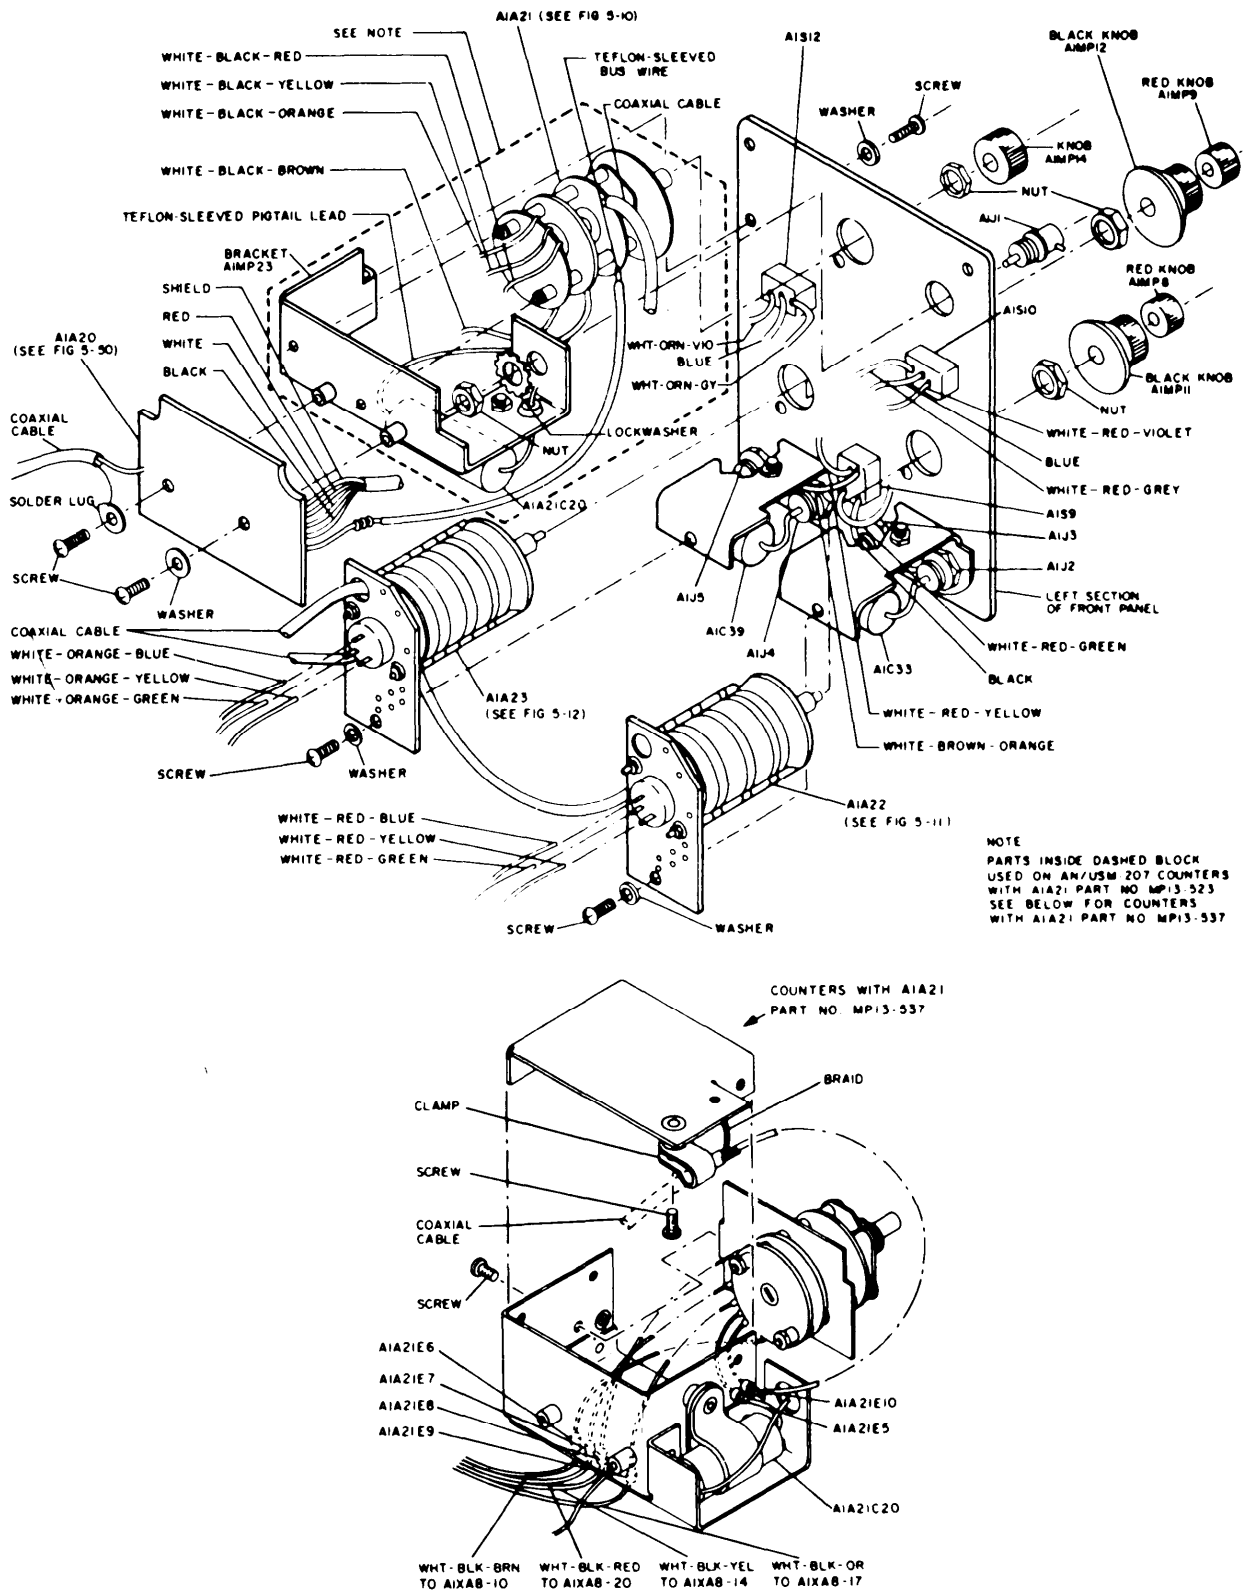
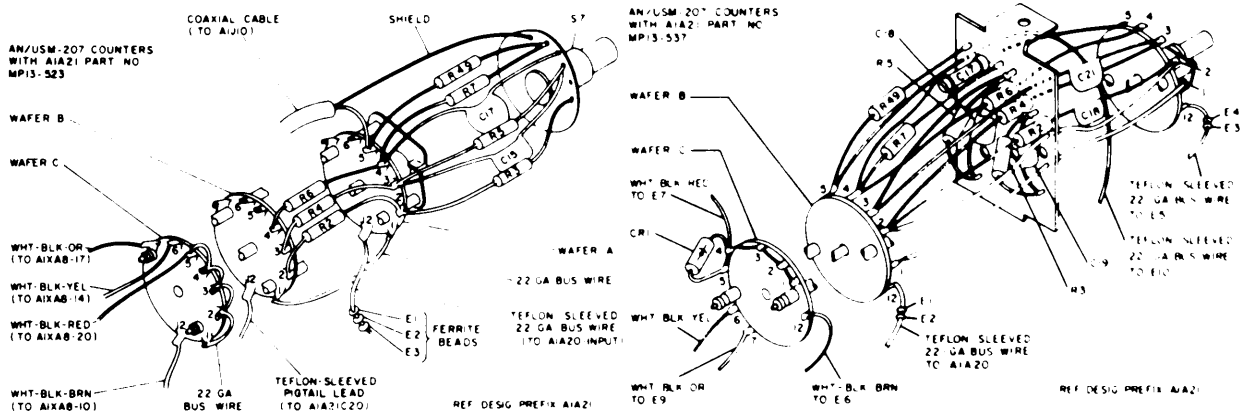
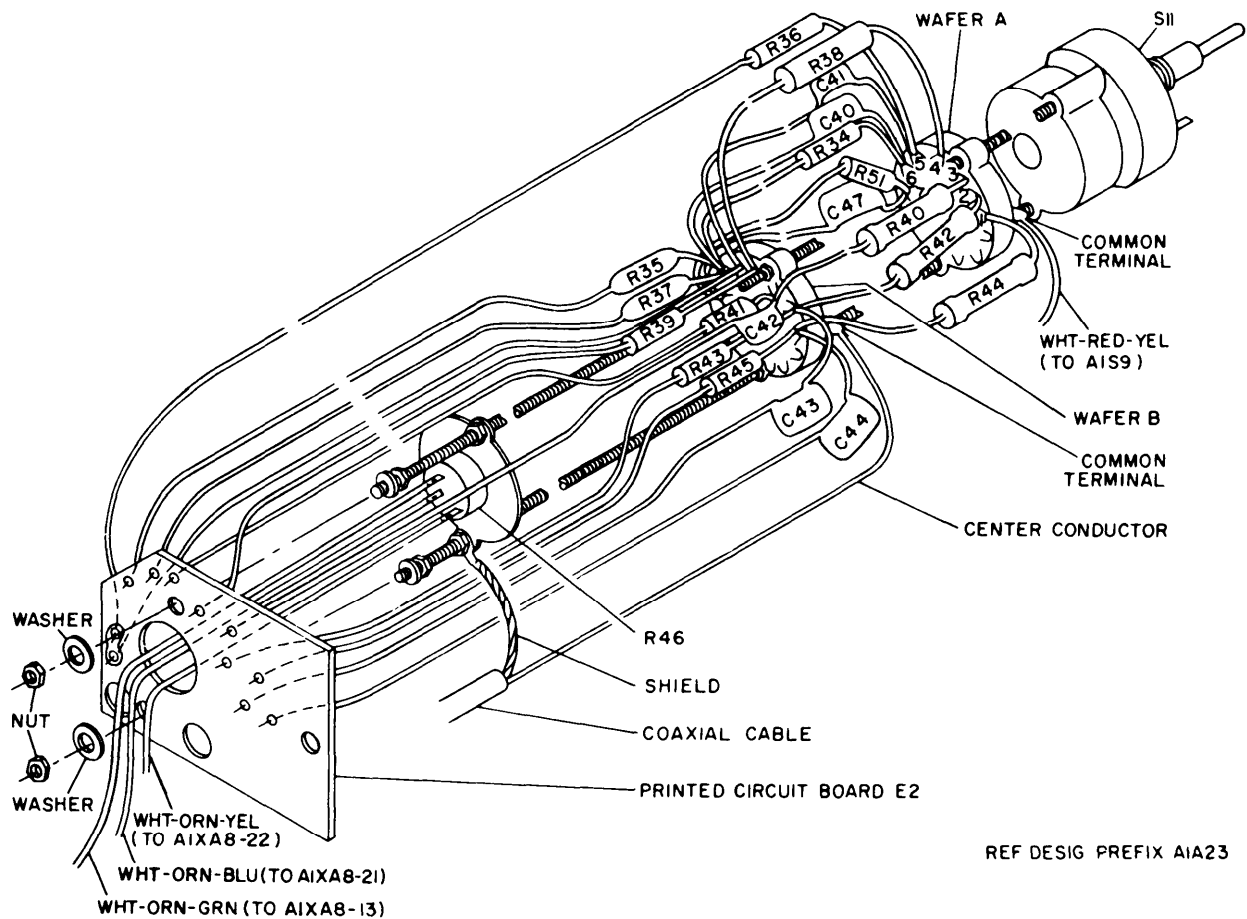

Figure 5-9. Left Section of Front Panel, Exploded View
Figure 5-10. Channel A Variable Attenuator A1A21, Location of Parts
Figure 5-12. Channel C Variable Attenuator A1A23, Location of Parts
(1) Perform the procedure of paragraph 5-5g to gain access to A1A20.
(2) Remove and save the two screws, washer and solder lug that mount A1A20 to its bracket MP23 (figure 5-9).
(3) Disconnect the coaxial lead and braid from the component side of A1A20. Code-mark coaxial cable to insure proper reassembly.
(4) Disconnect the red, white, and black leads and shield of the cable and teflon-sleeved bus wire from the circuit side of A1A20. Code-mark leads and save the three ferrite beads to insure proper reassembly.
(5) Orient replacement A1A20 such that the component side faces the bracket.
(10) Perform the procedure of paragraph 5-5g to gain access to A1A20.
(11) Remove and save the two screws, washer and solder lug that mount A1A20 to A1A21 (figure 5-9).
(12) Disconnect the coaxial lead and braid from the component side of A1A20. Code-mark coaxial cable to insure proper reassembly.
(13) Disconnect the red, white, and black leads and shield of the cable and teflon-sleeved bus wire from the circuit side of A1A20. Code-mark leads to insure proper reassembly.
(14) Orient replacement A1A20 such that the component side faces A1A21.
(1) Perform the procedure of paragraph 5-5g to gain access to A1A21.
(2) Unsolder the lead from connector A1J1 (figure 5-9). Remove and save the nut and lock washer that mount connector A1J1 and remove A1J1.
(3) Loosen the two setscrews on knob A1MP14 and remove the knob.
(4) Remove and save the mounting nut and washer that secure the shaft of A1A21 to the left section of the front panel.
(5) Remove and save the screw and washer that secure bracket A1MP23 to the left section of the front panel.
(6) Disconnect the external leads from A1A21 as follows (figure 5-10).
(9) Place bracket over A1A21; allow the bolts at the rear of A1A21 to pass through the clearing holes of the bracket.
(10) Connect and solder leads removed in step (6) to the terminals of A1A21 as shown in figures 5-9 and 5-10.
(11) Place mounting nut and lock washer on shaft of A1A21, then tighten mounting nut.
(12) Replace knob A1MP14 on shaft, temporarily tighten one of the two setscrews, then turn to the extreme counterclockwise position.
(17) Perform the procedure of paragraph 5-5g to gain access to A1A21.
(18) Unsolder the lead of capacitor A1A21C20 from connector A1J1 (figure 5-9).
(19) Remove and save the nut and lock washer that mount connector A1J1, and remove A1J1.
(20) Loosen the two setscrews on knob A1MP14 and remove the knob.
(21) Remove and save the mounting nut and lock washer that secure the shaft of A1A21 to the left section of the front panel.
(22) Remove and save the screw and lock washer that secure the case of A1A21 to the left section of the front panel.
(23) Remove and save the two screws, washer, and solder lug that secure A1A21 to A1A20.
(24) Unsolder the teflon-sleeved lead that connects A1A21 to A1A20. Mark the connecting point on A1A20 to insure proper reassembly.
(25) Unsolder the white-black-brown, white-black-red, white-black-orange, and white-black-yellow leads from the bottom of A1A21. Code-mark leads to insure proper reassembly.
(26) Unsolder the coaxial cable from the feedthrough terminal.